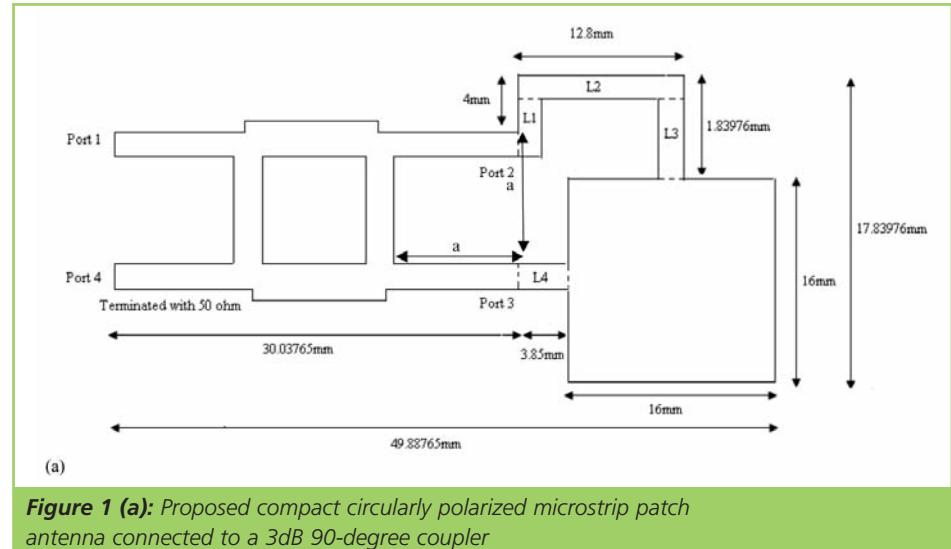

Figure 1 (a): Proposed compact circularly polarized microstrip patch antenna connected to a 3dB 90-degree coupler
The proposed circularly polarized microstrip patch antenna and its feeding coupler are shown in **Figure 1**. The quadrature (900)
hybrid (3dB) coupler generates orthogonal modes for circular polarization. There are two microstrip feed lines in the design as shown in Figure 1. The first feed line is used to connect Port 2 of the coupler to the centre of the length of the antenna. It is comprised of three microstrip lines that are L1, L2 and L3. The second feed line was used to connect Port 3 to the centre of the width of the antenna which is L4. The feed lines were connected to the two adjacent edges of the rectangular microstrip patch antenna so that circular polarization could be obtained. The antenna is mounted on an ROGERS (RO4003C) substrate with dielectric constant of 3.38 and thickness of 31 mil.